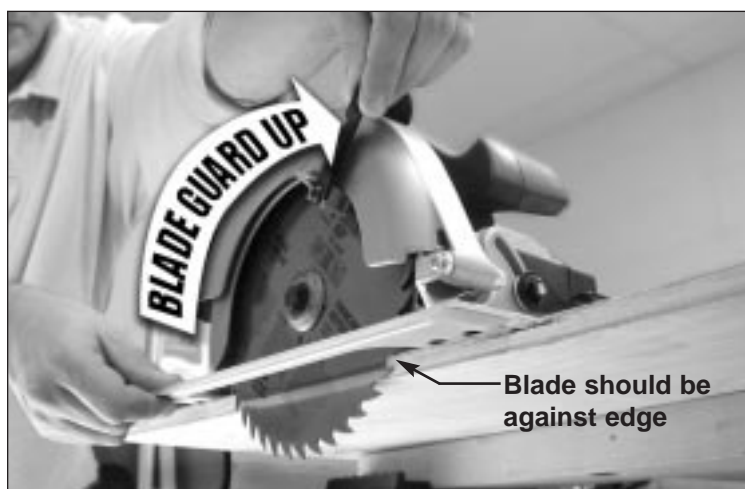
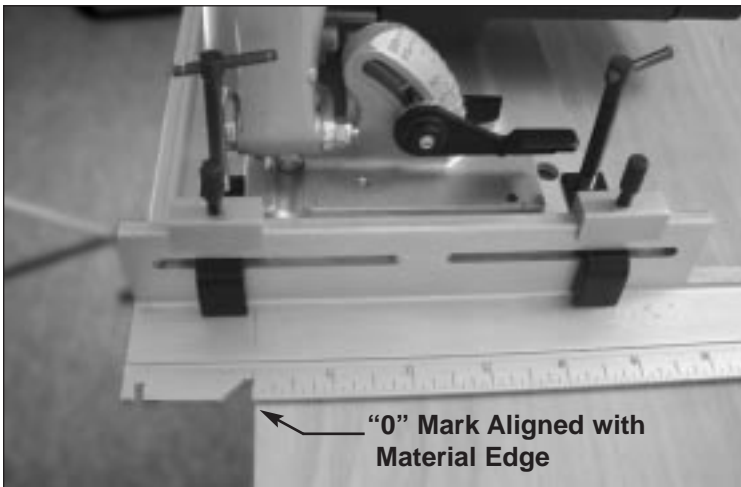
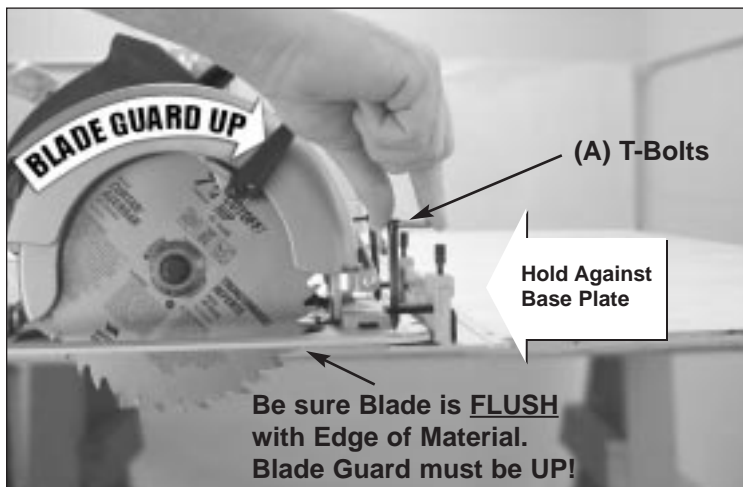

Fig. 4
Fig. 5b
Fig. 8
Important note on positioning your Rip Master Saw Guide: Make sure that the Zero mark on the Rip Master Saw Guide is aligned with the edge of your table or material as shown in Fig. 5b. Also, make sure that saw blade is firmly resting against the edge of the table or material as shown in Fig. 4., with the blade guard raised. This will align the saw blade properly with the Zero mark on the Rip Master Saw Guide, insuring correct cutting widths.
Hand-tighten the T-Bolts (A) firmly onto the saw’s base plate as shown in Fig. 8. **You should not use a tool to tighten the T-Bolts.** The sharp points on the T-Bolts will make a slight indentation in the base plate of your saw. When securely tightened, the T-Bolts will prevent the Rip Master from moving during use. **This is very important to maintaining the accuracy of your cuts.**
| <p>Width of cut is not accurate</p> | <ol style="list-style-type: none"> 1. Rip Master Zero mark is not aligned with the Zero mark on your saw. 2. T-bolts have loosened on the Rip Master. 3. Cut-Guide Handle has loosened on the Rip Master. | <ol style="list-style-type: none"> 1. Re-align Rip Master Zero mark and the Zero mark on your saw. Refer to Fig.5b. 2. Re-tighten T-bolts. Refer to Fig.8 3. Re-position Cut-Guide to desired cutting width and tighten Cut-Guide Handle. |